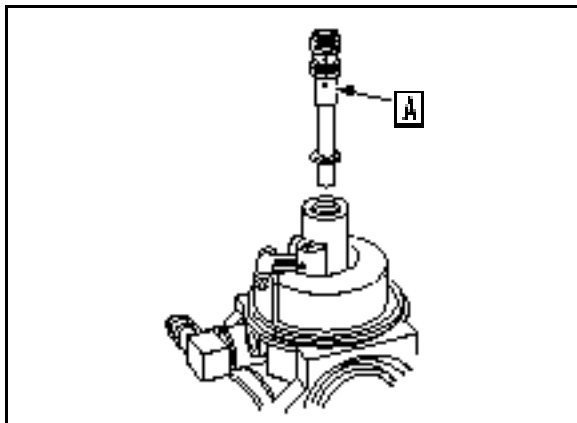

Fig. 104
- Using carburetor nozzle screwdriver # 19280, remove main carburetor emulsion tube ([A] Fig. 104).